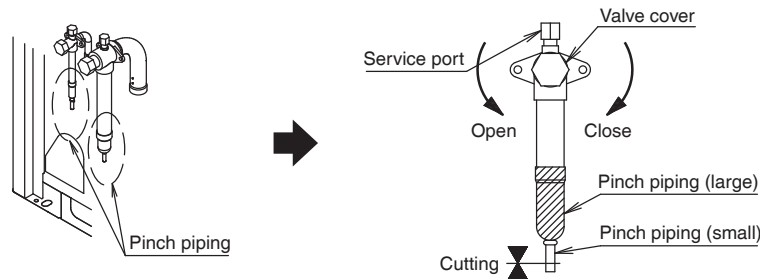

Fig. 12
- When connecting the refrigerant piping to the heat source unit, remove the pinch piping as shown in Fig. 12.